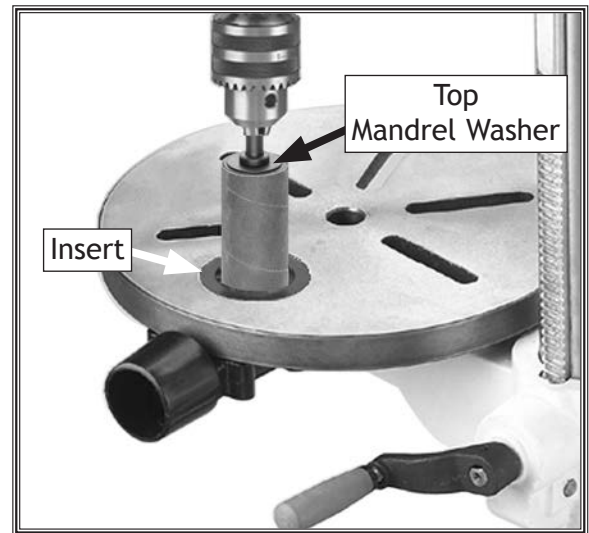

Figure 51. Sanding drum installed.
10. Set the chosen table insert into the pocket in the top of the table, insert the sanding drum mandrel into the chuck, then tighten chuck (see **Figure 51**).